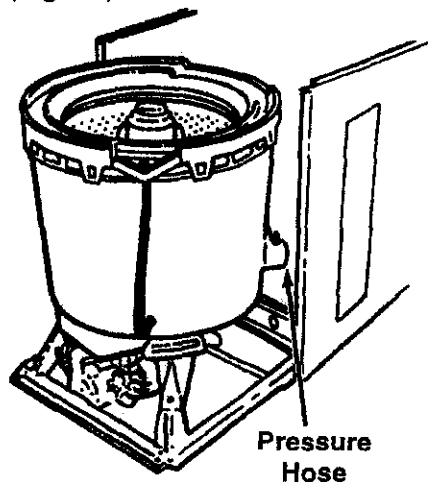

Fig. 17
4. Remove the Pressure Hose. (Fig. 17)